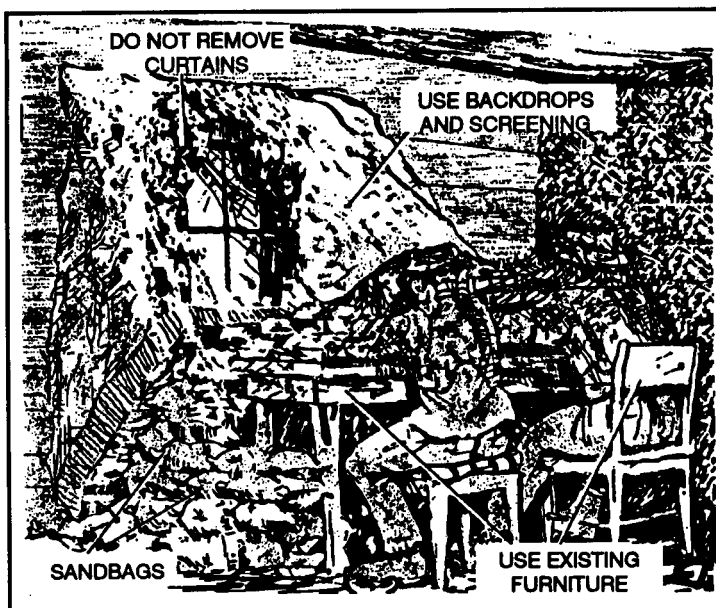

Figure 4-13. Room hide position.
(1) **Room hide position.** In a room hide position, the sniper team uses an existing room and fires through a window or loophole (Figure 4-13). Weapon support may be achieved through the use of existing furniture—that is, desks or tables. When selecting a position, teams must notice both front and back window positions. To avoid silhouetting, they may need to use a backdrop such as a dark-colored blanket, canvas, carpet, and a screen. Screens (common screening material) are important since they allow the sniper teams maximum observation and deny observation by the enemy. They must not remove curtains; however, they can open windows or remove panes of glass. Remember, teams can randomly remove panes in other windows so the position is not obvious.